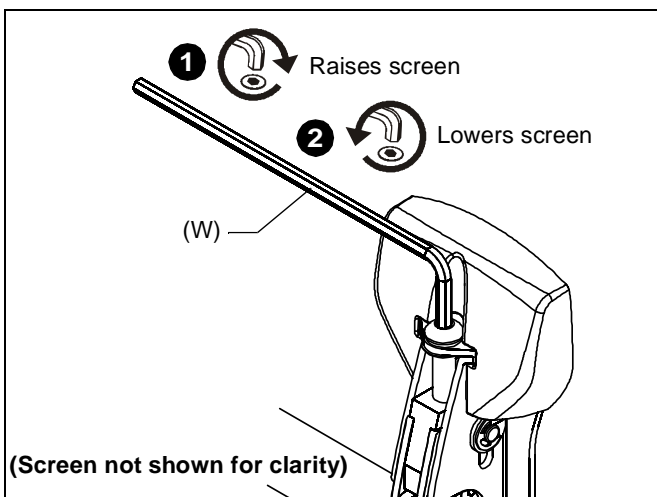

Figure 14
1. Turn to right (tighten) to raise side of screen.(See Figure 14)
2. Turn to left (loosen) to lower side of the screen. (See Figure 14)